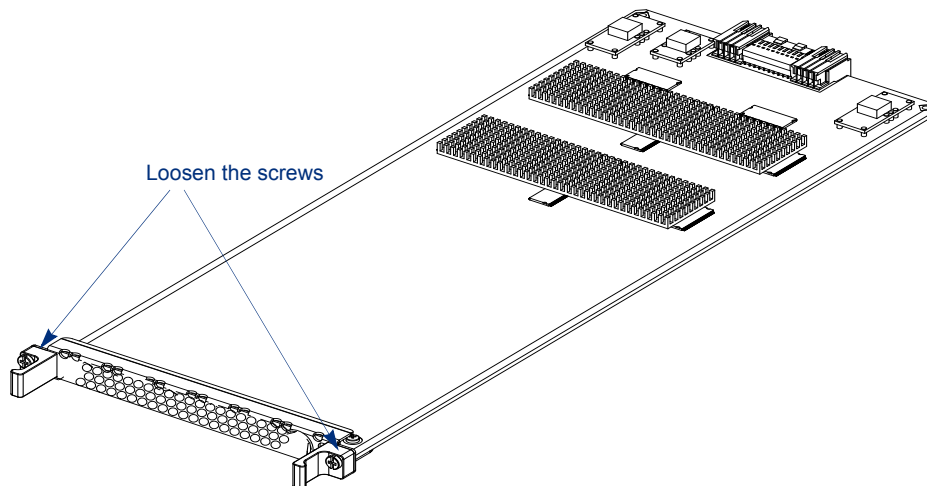

Figure 297. Loosen the insertion/removal screws
2. Using a Phillips screwdriver, loosen—but do not remove—the insertion/removal screws, shown in Figure 297.